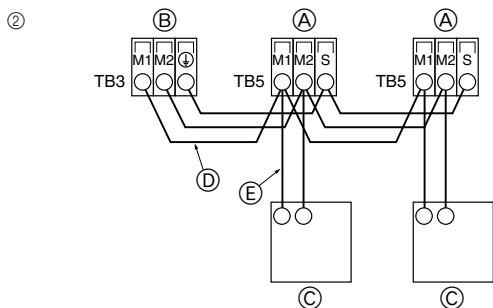

Fig. 6-4
② M-NET Remote controller (Fig. 6-4)